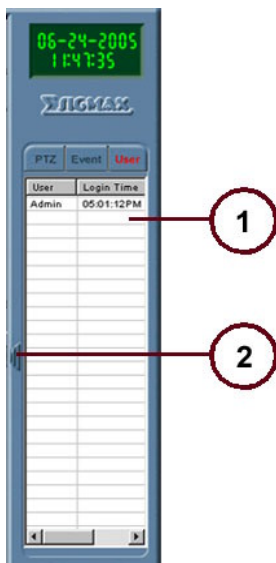

**Figure 3-7 Instant Review Pop-up Window**
- (1) **Filter Options: Show Motion/ Alarm/ System/ POS Events/ POS Exception Only.** Select/Deselect a filter to enable/disable showing of that type of events.
- (2) **Instant Review.** Select Instant Review when right-clicking an event to produce a pop-up window that displays the video image when that event occurred. See details given in Figure 3-7.
- (3) **Auto Scroll.** Select/Deselect Auto Scroll to enable/disable auto scrolling of the Events Listing Panel as events are detected and added to the list.
- (4) **Clear.** Select Clear to delete all events in the Events Listing Panel.